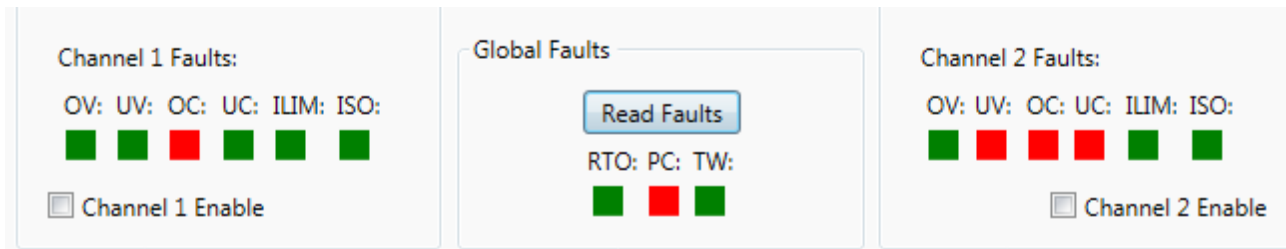

Figure 52. Fault Status after Pushing the Read Faults Once
After applying these settings, the fault status registers FLT1 (0x11) and FLT2 (0x12) must be checked. Before enabling and turning on the outputs, the fault registers must be read (cleared). The Power Cycle (PC) bit must be cleared in order for the TPS92682-Q1 is enabled. The fault status can be obtained by pushing the **Read Faults** button in Figure 52.